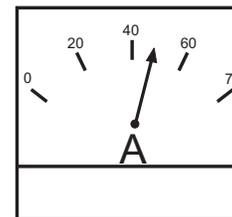

Figure 60. Ammeter (Load)
17. Observe the generator's ammeter (Figure 60) and verify it reads the anticipated amount of current with respect to the load. The ammeter will only display a current reading if the load is in use.